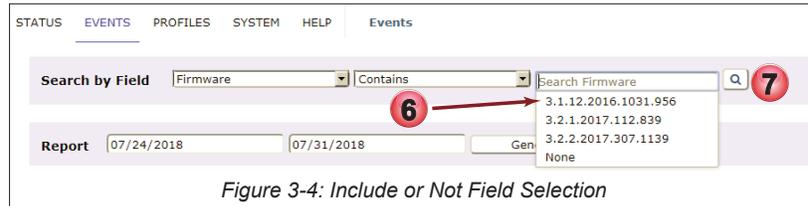

Figure 3-4: Include or Not Field Selection
6. Click **inside** the third search box and make a selection, Figure 3-4. Regardless of the first search criteria selected, the dropdown list of choices will be just entries that exist in the monitored Devices, therefore only valid searches will result. If there are no items in the third dropdown list then there are no servers that match this particular search criteria.